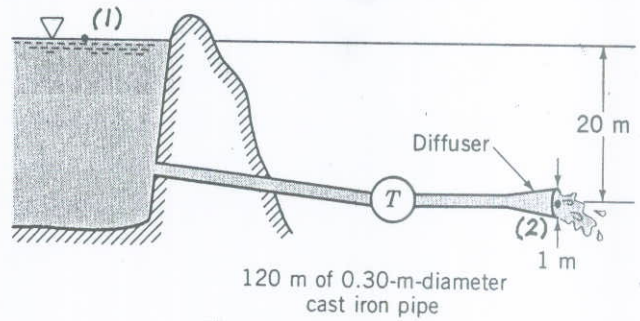

FIGURE P8.91
8.91 The turbine shown in Fig. P8.91 develops 400 kW. Determine the flowrate if (a) head losses are negligible or (b) head loss due to friction in the pipe is considered. Assume  $f = 0.02$ . Note: There may be more than one solution or there may be no solution to this problem.